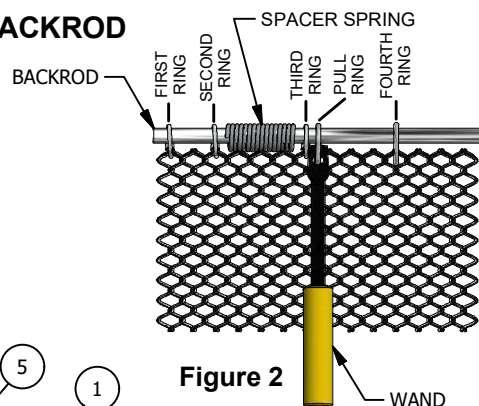

Figure 2
1. Lay the fireplace screen parts out as shown in Fig. 1. Notice the location of the two closely spaced rings (3) on each half of the curtain mesh. They indicate which edge of the curtain must be placed at the center of the Hanger. Place the Spacer Spring between the second and third ring. The Wand (7) is factory installed between the third and fourth ring as shown in Fig. 2.